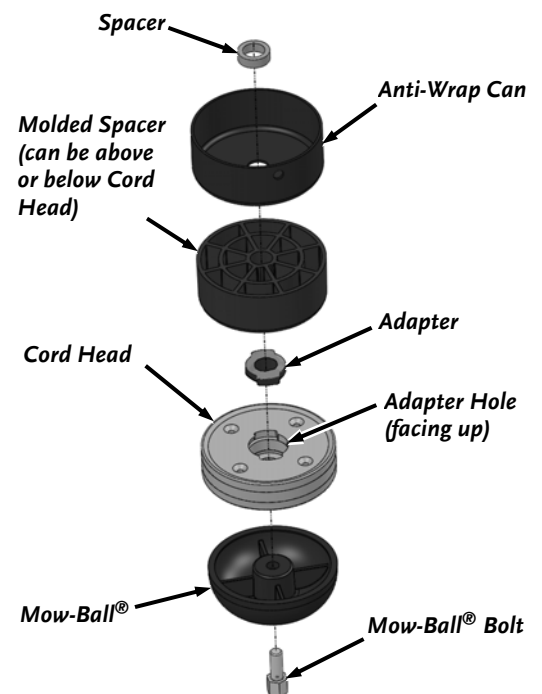

Figure 12
5. Slide the Cord Head, Adapter and Molded Spacer off the Shaft (**Figure 12**).